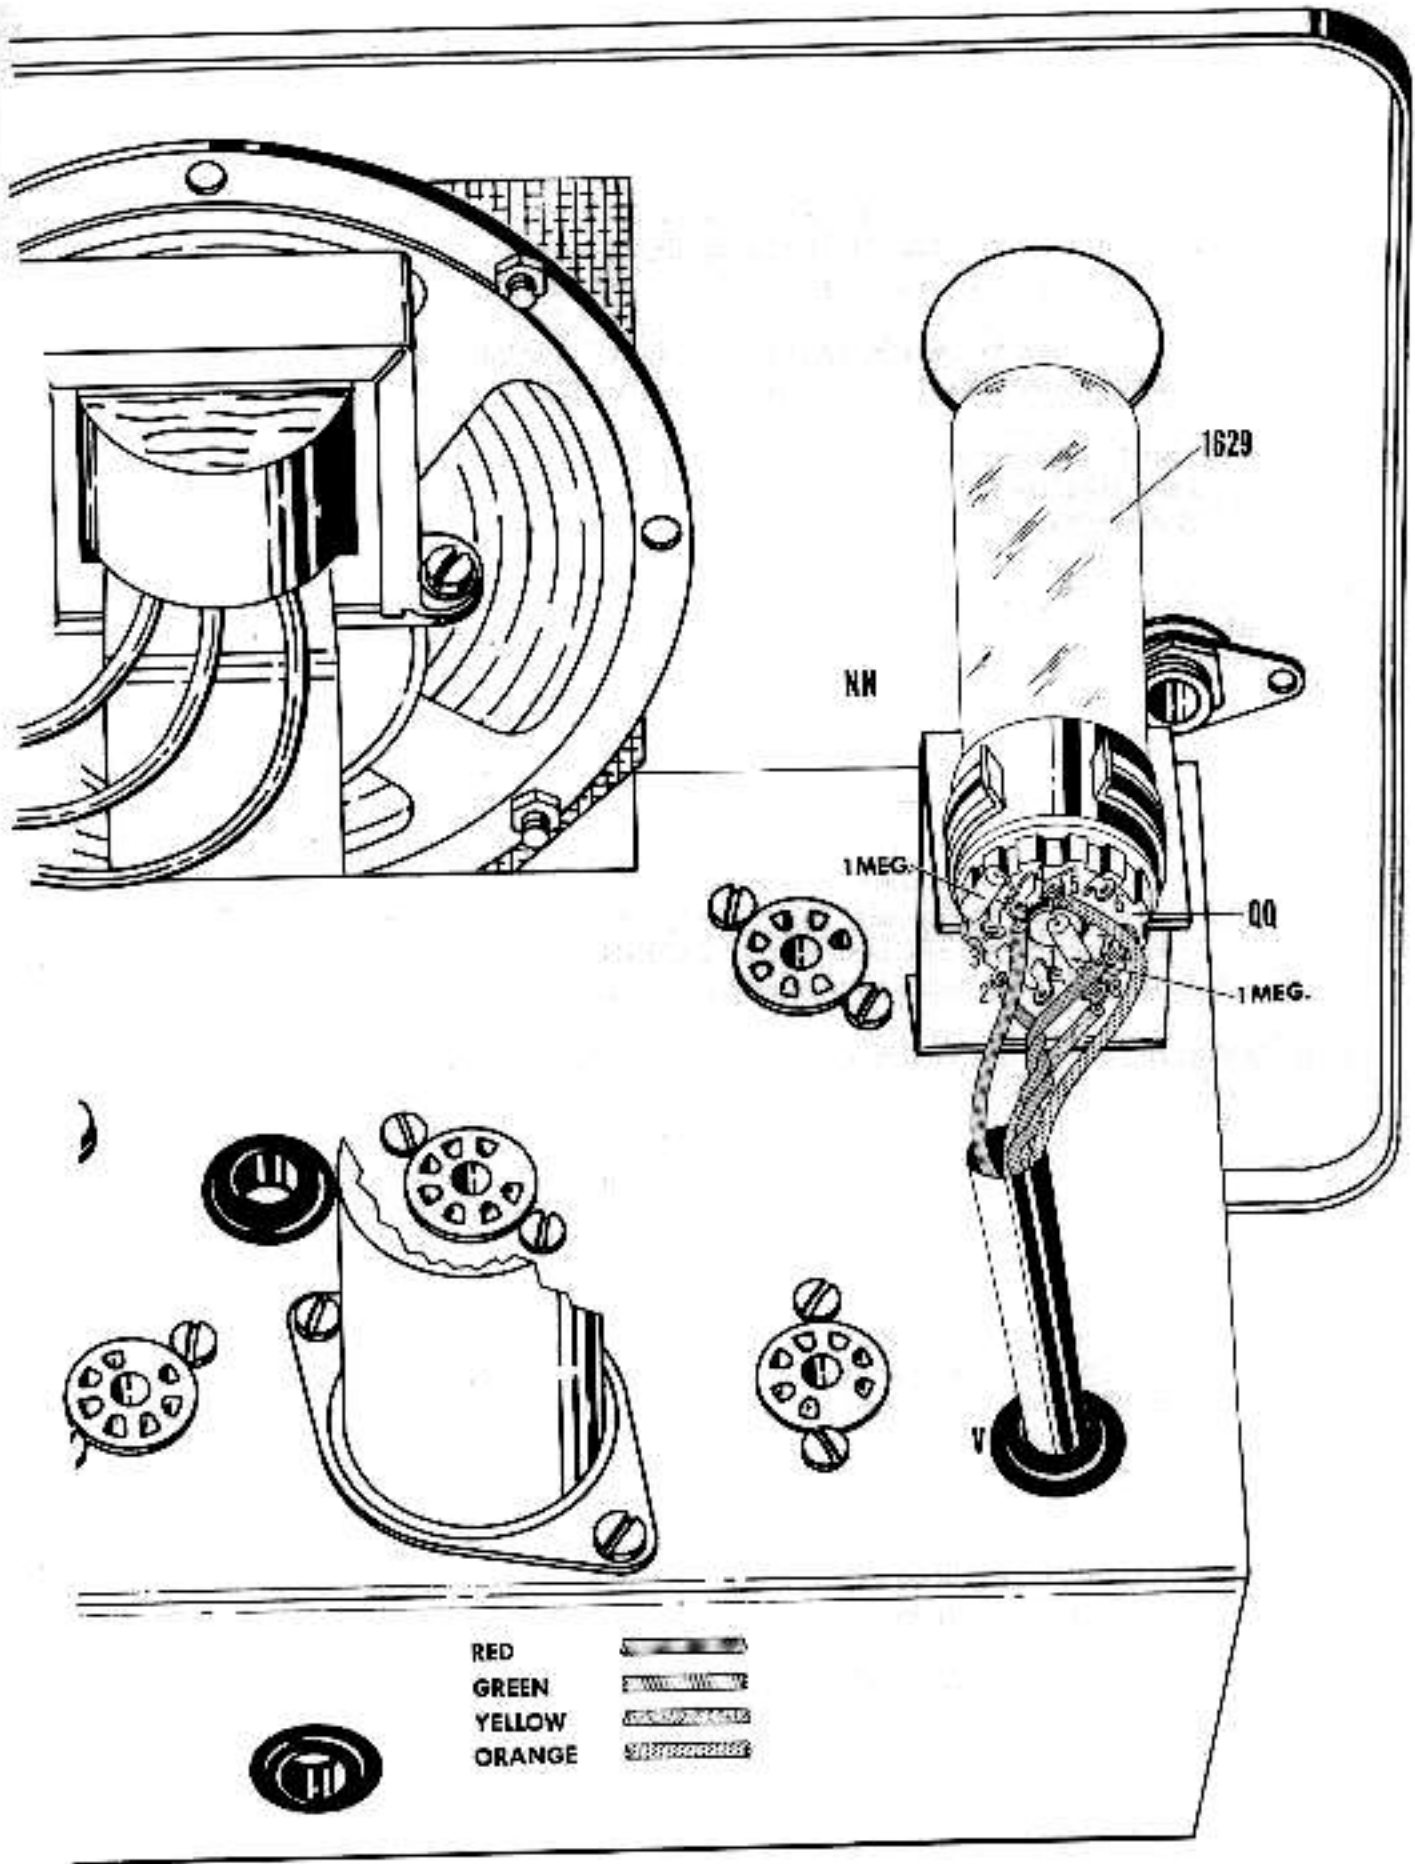

FIGURE 11
### REFER TO FIGURE 11
- ( ) 122. Place the 1629 tube in spring clip NN with the tube keyway pointing down toward the chassis. The tube should be seated in the clip so that the clip fits around the Bakelite base. See Figure 11.